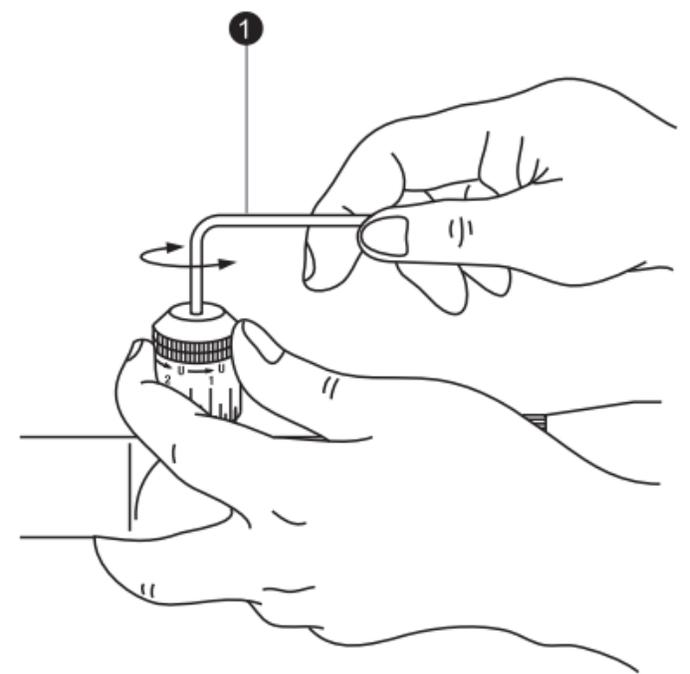

Fig. 3-1
With the turret held with your fingers to avoid shifting of the aligned scale ring, turn the screw in the top of the turret counter-clockwise with the supplied hex key (1) until the screw comes out. Then remove the turret (Fig. 3-1).